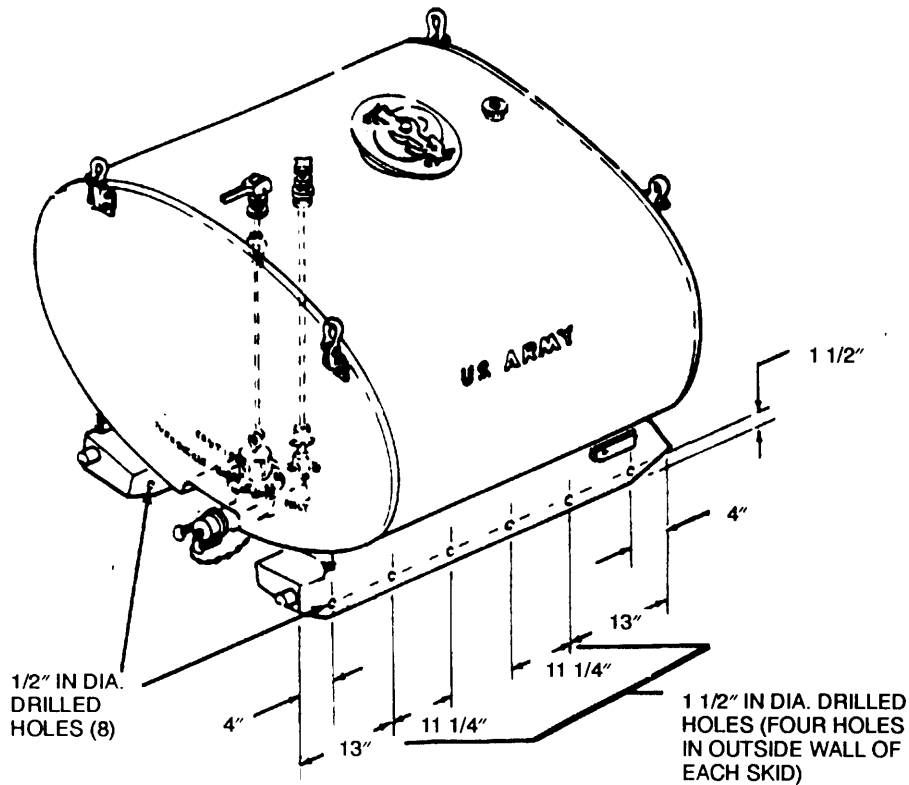

Figure 4-1. Tank Assembly
e. Before attempting any welding repair on the tank, drill four 1/2 inch diameter drain holes in each skid (eight holes required) and four 1 1/2 inch holes in each skid (eight holes required). (Figure 4-1)